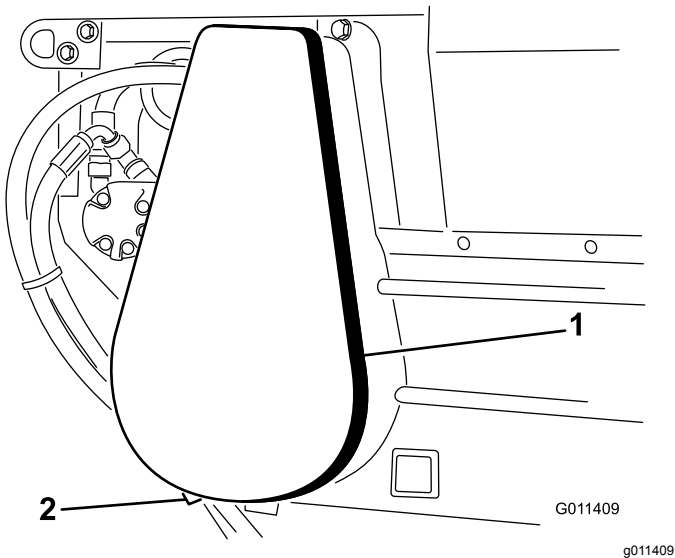

Figure 29
1. Remove the chain cover assembly and spacer (Figure 29).